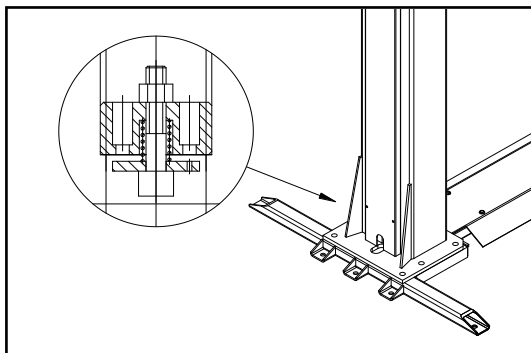

Fig. 12
- ◆ In case of a sudden, great leakage in the hydraulic circuit (a broken pipe), the blocking valves, at the bottom of each Cylinder, will trip. (**Fig. 12**)